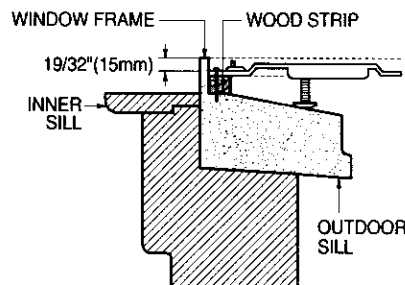

FIG. 11
- Dimensions and geometry of windows are different according to manufacturers. Check your window and refer to FIG. 11 to install the support bracket firmly.